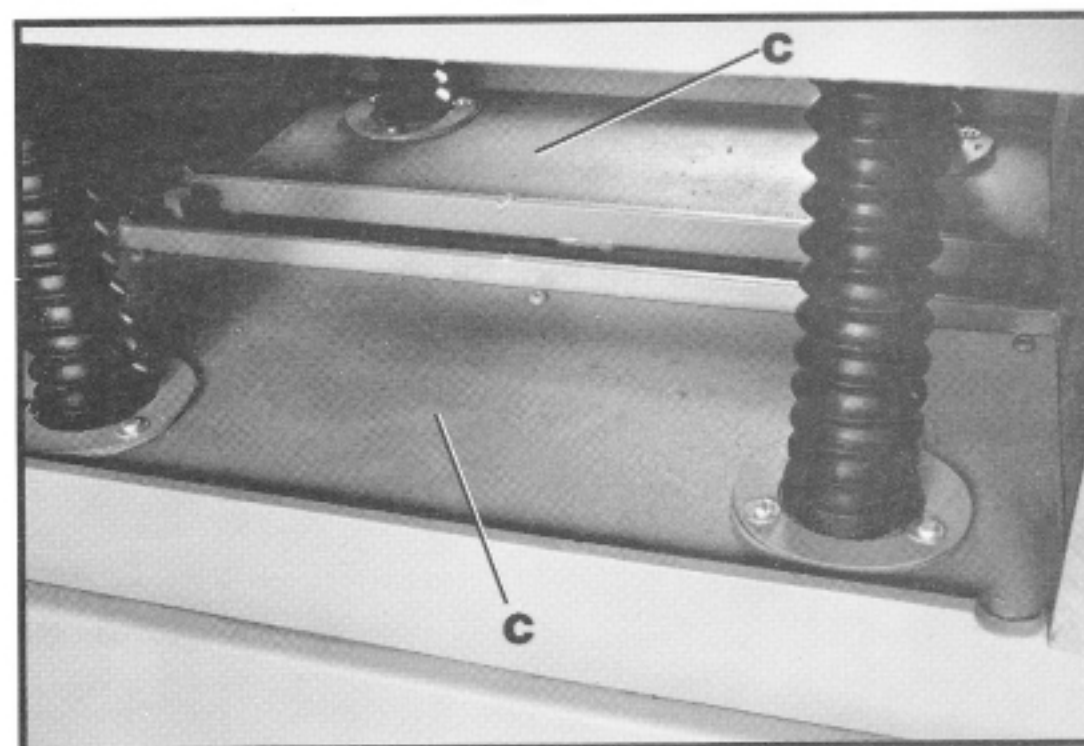

Fig. 42
5. If head casting is not parallel to table, raise chain and sprocket covers (C) Fig. 42.